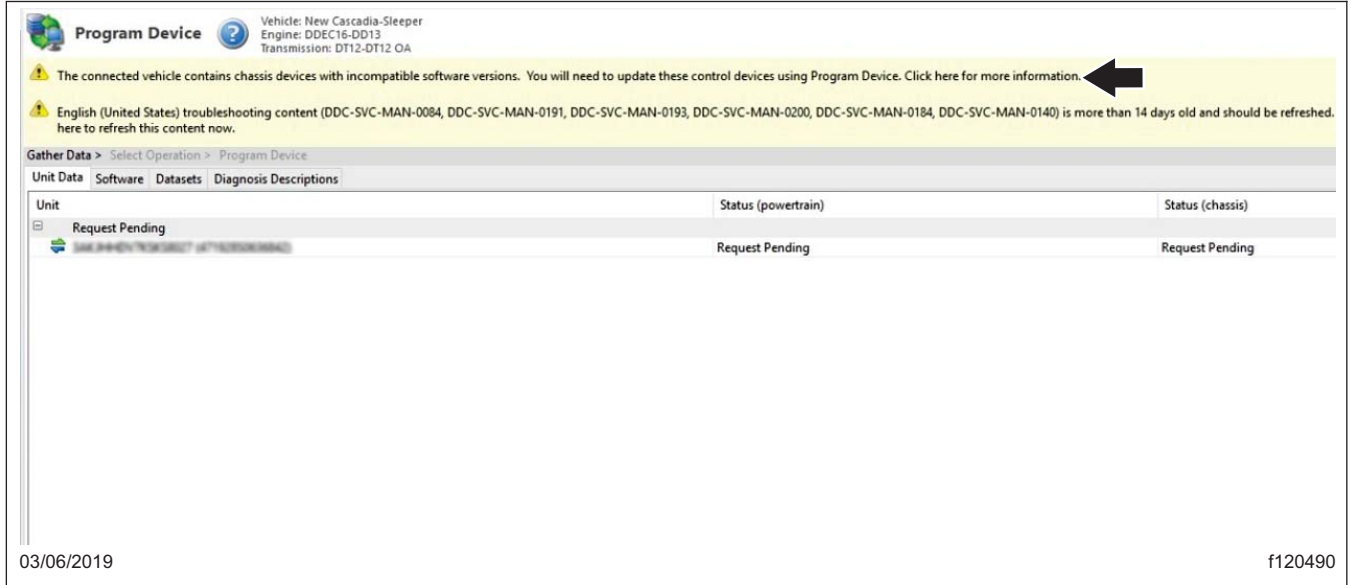

Fig. 12, Clicking on the Banner Message
13. Click on the banner message. See Fig. 12.